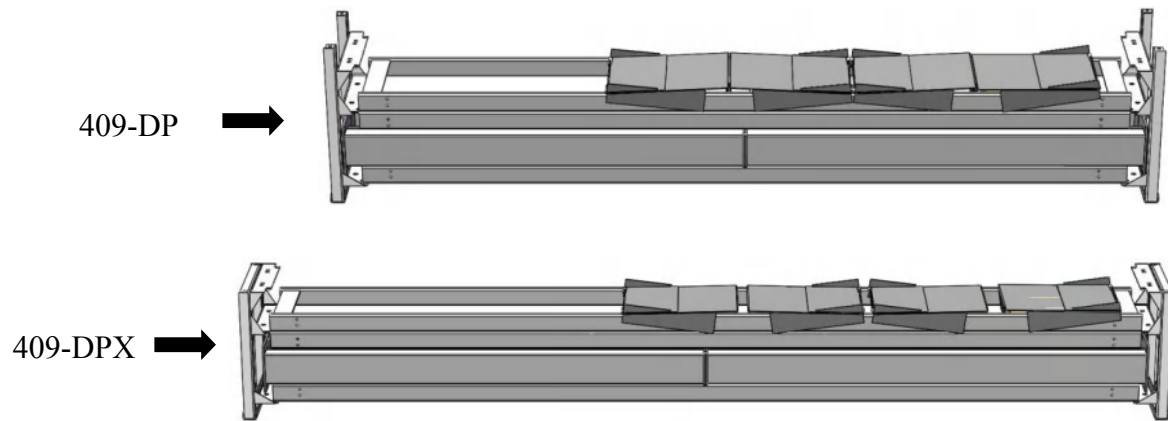

Fig. 10
- Loosen the upper bolts of the package bracket, take out the upper cross beam(409-DP),take out the offside platform on the top. **(See Fig. 10)**